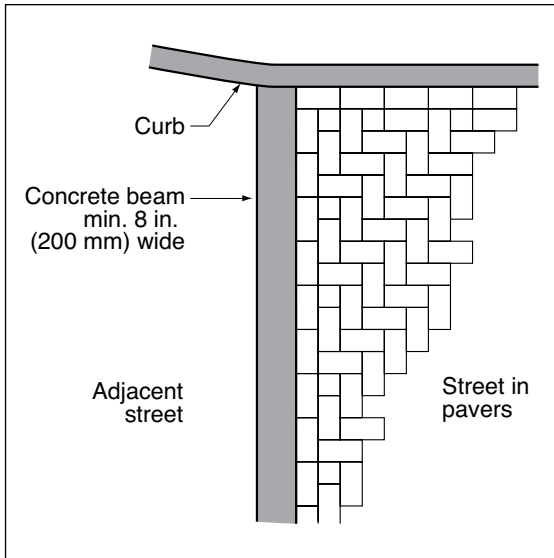
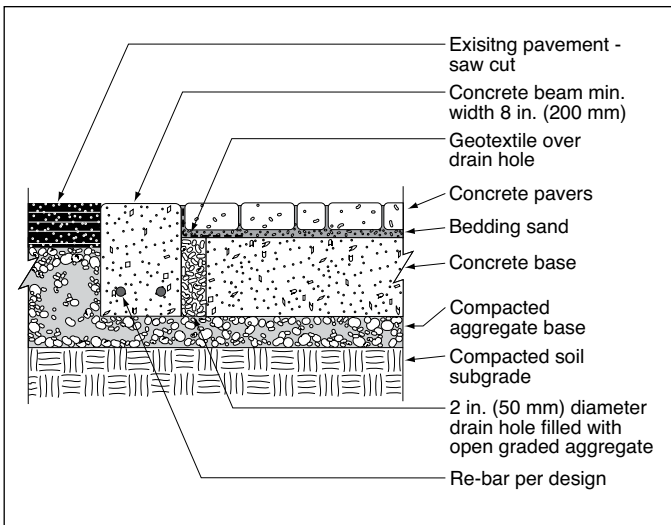
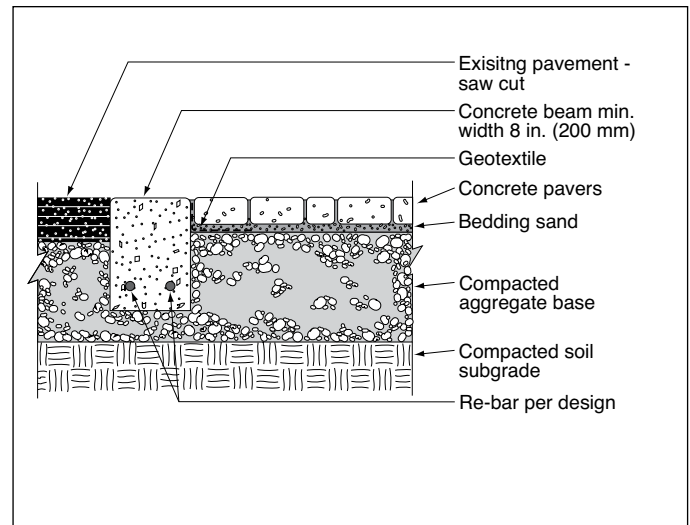

Figure 10. Concrete beam.
Figure 11. Crosswalk with concrete base.
Figure 12. Crosswalk in existing asphalt pavement.
(Figure 10). Drain and catch basin inlets should have a concrete collar around them if they are not encased in concrete.
**Crosswalks**—Pavers in a crosswalk or abutting another pavement can be placed against a concrete beam (Figure 10), or a beam and slab base combination for pavements subject to heavy vehicular traffic (Figure 11). The beam prevents horizontal creep of the pavers due to braking and turning tires. Figure 12 shows a light duty crosswalk appropriate for residential streets with minimal truck traffic. Refer to *Tech Spec 19—Crosswalk Construction Using Interlocking Concrete Pavers* for further details.